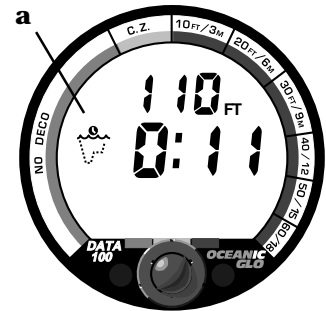

Fig. 20 - PDPS
**Prior to every dive, Oceanic strongly recommends that you view the PDPS to review the no decompression limits that will help you plan your dive as required to avoid decompression.** This is especially important for repetitive dives, when the PDPS (Fig. 20) will indicate for you the adjusted no decompression bottom times that are available to you on your next dive, based on any residual nitrogen following your last dive and surface interval.
Information displayed (Fig. 20, page 21 and above Fig. 21) includes Maximum Depth, No Decompression Limit (Dive Time) available at that depth, and the PDPS mode icon. No Decompression times are only displayed for depths where there are at least 3 minutes dive time available at the depth, taking into account a descent rate of 120 feet (36 meters) per minute.